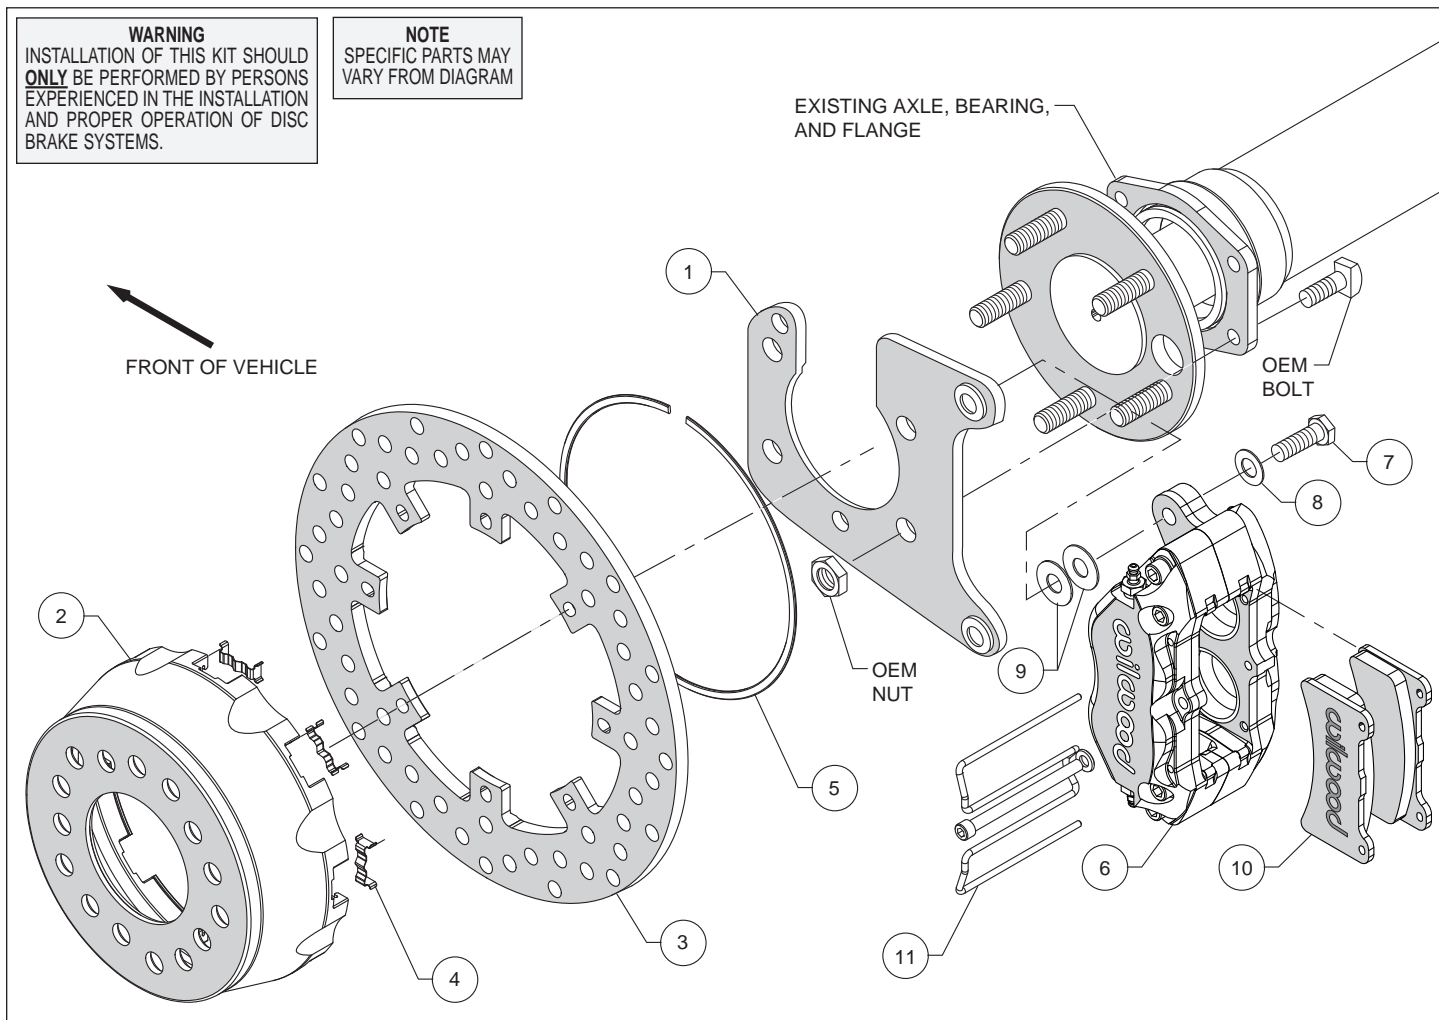
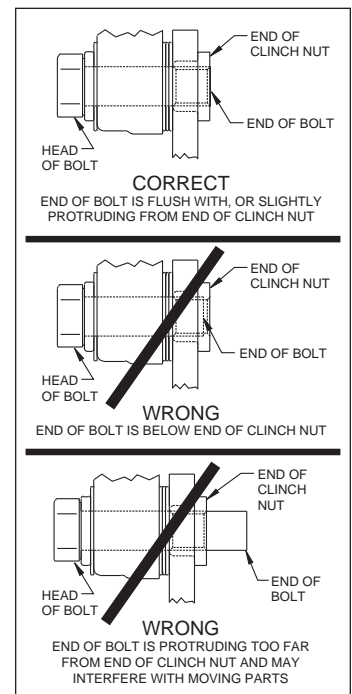

Figure 1. Typical Installation Configuration
Figure 5. Clinch Nut Engagement Diagram
Assembly Instructions (numbers in parenthesis refer to the parts list and Figure 1 on the preceding pages): **CAUTION:** All mounting bolts must fully engage clinch nuts. Be sure to check that all bolts are either flush or protruding through flanged side of clinch nut after shimming, Figure 5.
- Install the caliper mounting bracket (1), with the slot for the axle pointing upward, to the housing flange using the OEM bolts and nuts, as shown in Figure 1 and Photo 1. Ensure that the heads of the clinch nuts are facing outboard, Photo 1. Apply red *Loctite*® 271 to the OEM bolt threads and torque to OEM specifications.
- Insert the dynamic mount wear clips (4) into the slots in the hat (2) making sure the tabs snap in place, Photo 2. Orient the rotor (3) as shown in Figure 1 and Photo 3, with the flush mount tab side facing the hat. Attach the rotor to the hat using snap ring (5) by pushing down on the rotor and installing the ring into the groove in the hat, as shown in Photo 4. Ensure that the ring is fully engaged in the groove.
- Align the correct hole pattern in the hat (2) with the axle stud pattern and slide the hat/rotor assembly onto the axle hub. **NOTE:** The hat must fit flush against the axle flange or excessive rotor run out may result. Install three lug nuts (finger tight) to keep the hat/rotor in place while continuing with the installation. **NOTE:** Some OEM and aftermarket axles come with stud sizes larger than 0.50" diameter. Verify stud size, and if necessary, have a qualified machine shop drill the hats to the correct size.
- **NOTE:** Please reference the caution statement at the beginning of the assembly instructions. Mount caliper (6) onto the mounting bracket (1) using bolts (7) and washers (8), as shown in Figure 1. Initially place two .035" thick shims (9) on each bolt between the caliper and the bracket, Photo 5. Temporarily tighten the mounting bolts and view the rotor (3) through the top opening of the caliper. The rotor should be centered in the caliper, Photo 6. If not, adjust the caliper by adding or subtracting shims between the bracket and the caliper. Always use the same amount of shims on each of the two mounting bolts. **NOTE:** The end of each bolt must be flush with or slightly protruding from the head of the clinch nut. If necessary, place spare shims between washer and caliper mounting ear to achieve the proper clinch nut engagement, as shown in Figure 5. Once the caliper alignment and clinch nut engagement are correct, remove the bolts one at a time, apply red *Loctite*® 271 to the threads, and torque to